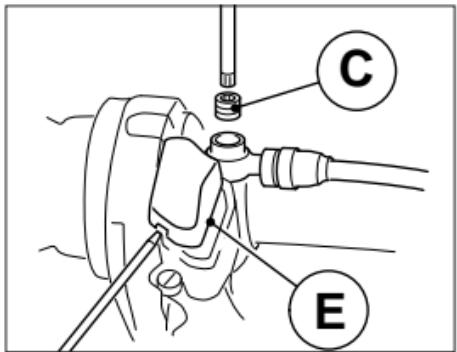

Fig. 10
- Use a screwdriver introduced in the specific slots to loosen and remove cover **E** (Fig. 10).
- Loosen the grub screw **C** (Fig. 10) and remove the O-ring from the coupling screw head having care not to damage the particularly small-sized O-ring.